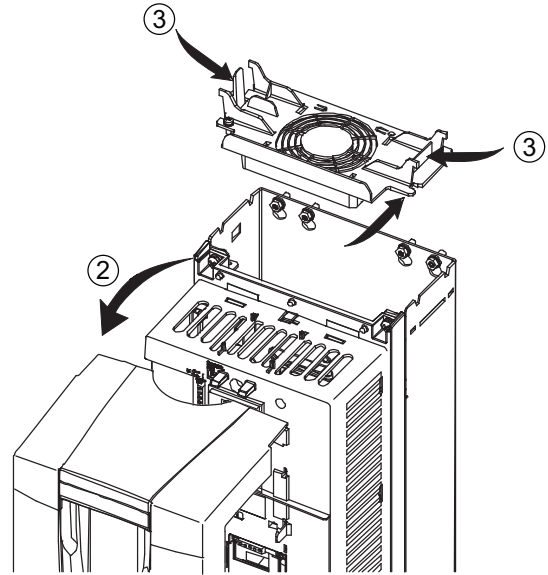

Fig. 43 — Remove Top Cover on ACH550 VFD
3. Press together the retaining clips on the top cover and lift (see Fig. 43).